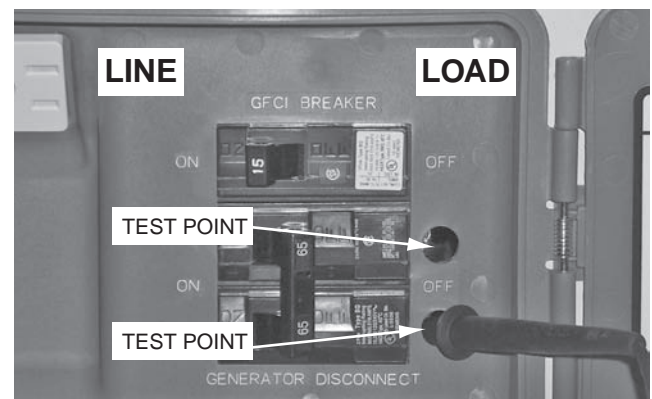

Figure 46. Test 2 Test Points
2. With the engine shut down, connect the meter test leads across the load terminals of the Generators MLCB. This will measure line-to-line voltage. See Figure 46.